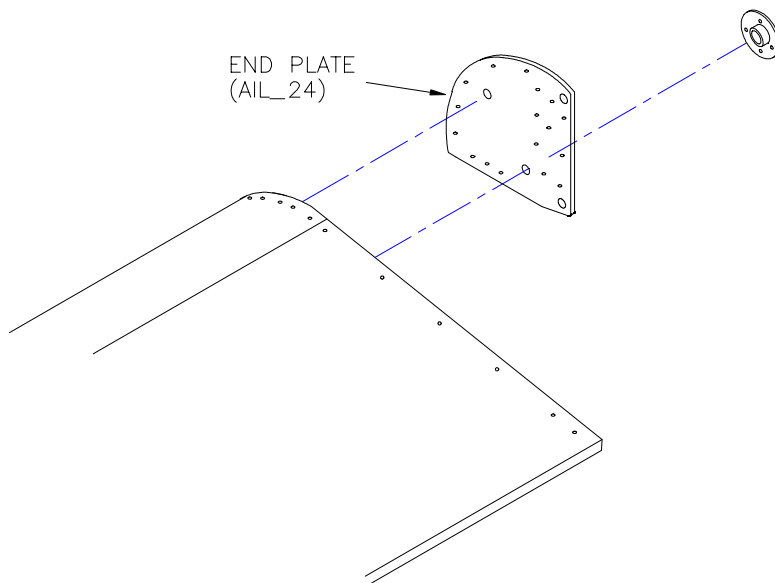

Figure 6.5.4
- 11) Disassemble, debur and chromate the mating surfaces and rivet the bushing to the flap and endplate using 1/8" (RV-1410) rivets and 1/8" (RV-4412) rivets. Figure 6.5.4.